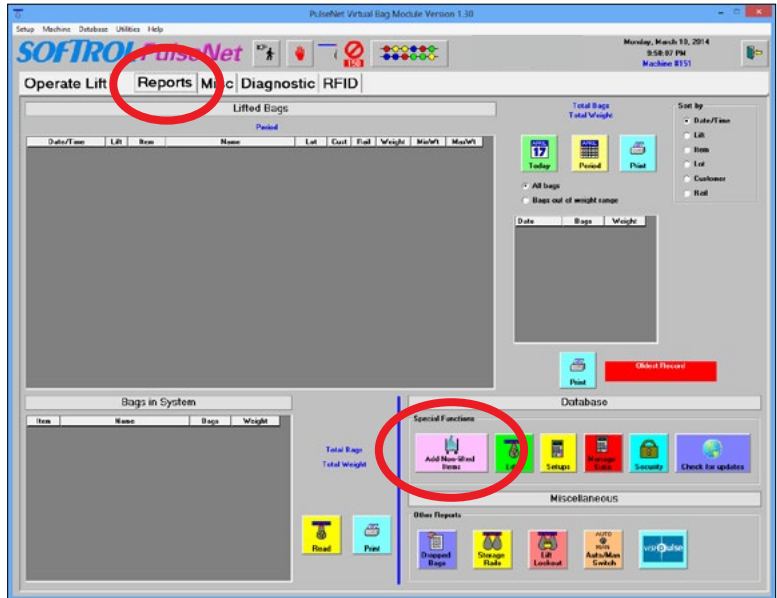

Figure 9. Using the Reports tab, click the Add Non-lifted Items button.
2. Click the **Add Non-lifted Items** button (see Figure 9).